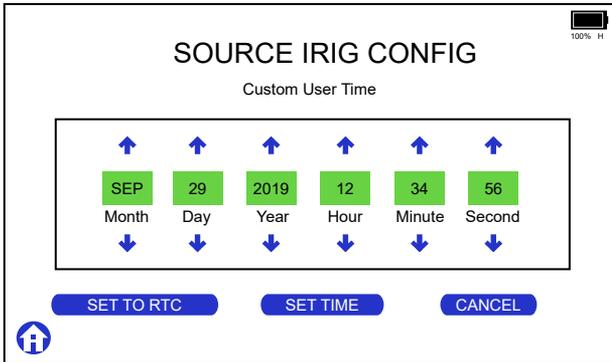

Figure 7: IRIG-B Source Custom Time Configuration Screen
2. Touch CUSTOM and then touch the Time/Date bar to manually set the date and time. Similar to figure 7 on page 10.